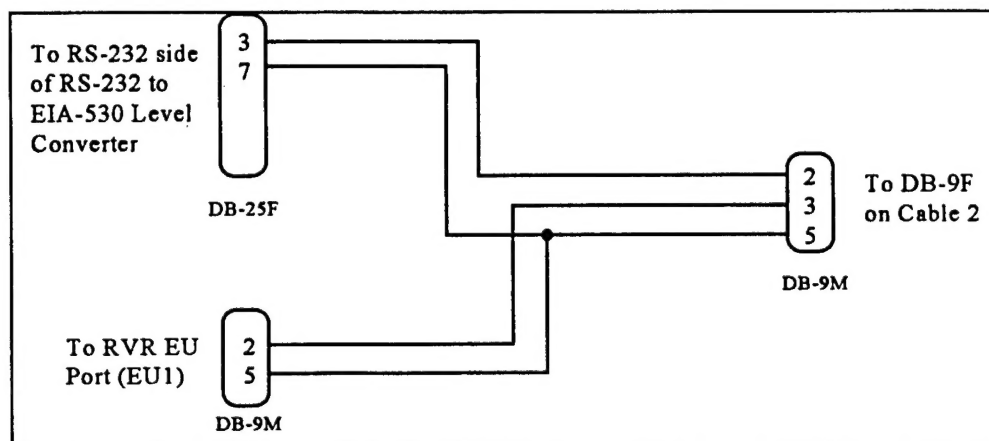

FIGURE 1.2-1. CABLE 1
Two serial data cables are provided with your Interim RVR/ASOS installation kit and are identified in this guide as "Cable 1" and "Cable 2." Cable 1 is a split cable designed to connect to the RVR Data Processing Unit (DPU) External User (EU) port, an HP Palmtop serial cable, and an RS-232 to EIA-530 level converter. This cable contains three connectors, two 9-pin male (DB-9M) and one 25-pin female (DB-25F). Figure 1.2-1 illustrates the connectors, connection points, and pinout for Cable 1.